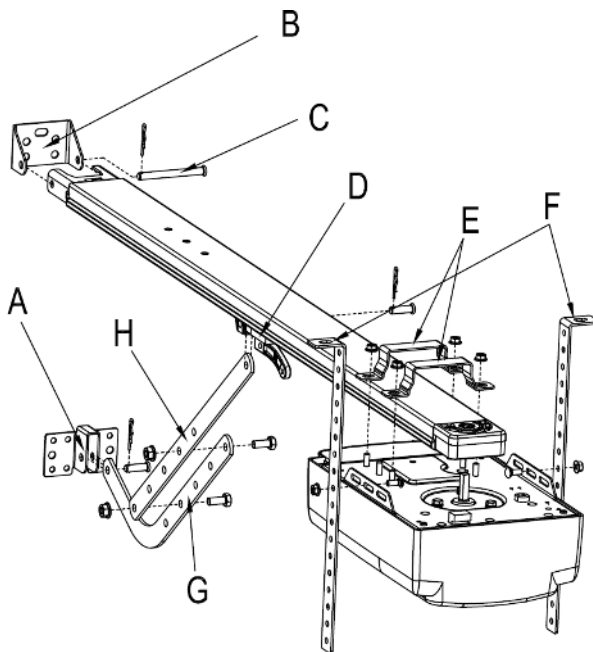

Fig.5
Make sure the track is horizontal. Place a spirit level on the track if required. Make sure the connection of the hanging bracket is firm and secure (Fig.5, F)
1. Fix the wall bracket(B) to the wall 2cm-15cm above the torsion shaft or spring and central to the door.
2. Fix the steel track to the wall bracket using axis pin $\Phi 8 \times 80$ (C) and cotter pin. (Fig. 5)
4. Fix the hanging bracket(F) to the edge of the opener as in Fig. 5 using M6x16 carriage bolts and/or rail hanger supplied. If using rail hanger, bend tabs down after fixing to the track to secure.
6. Fix the door bracket(A) to the top edge of the door in the middle and under the wall bracket using suitable fasteners (not supplied)
7. Connect the bent arm(G) to the door bracket using the $\Phi 8 \times 25$ axle pin and cotter pin as shown in Fig.5.
8. Install the shuttle(D) to the track using the 4x M6x20 screws supplied (Fig.6), tie the clutch cord. Connect the straight arm(H) to the clutch using the $\Phi 8 \times 25$ axle pin as shown in Fig.5. Affix manual release procedure instruction card to clutch cord/manual release cord.